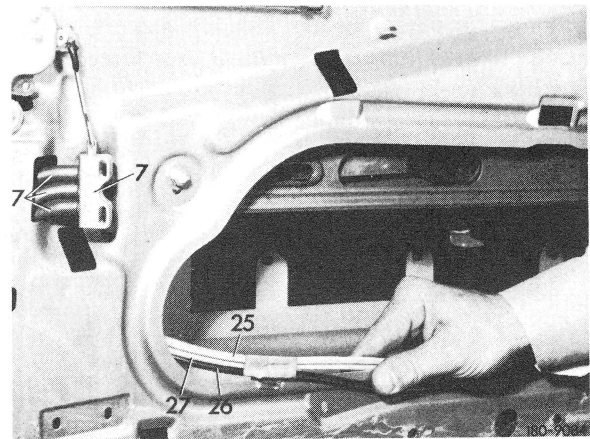

Fig. 2
- 4 Pull connections (17) with interlocking line „white” (25) bottom, unlocking line „black” (26) top and suction line „yellow” (27) center from vacuum switch (7) (Fig. 2).
- 7 Slip connections (17) with interlocking line „white” (25) bottom, unlocking line „black” (26) top and suction line „yellow” (27) center on vacuum switch (7) (Fig. 2).